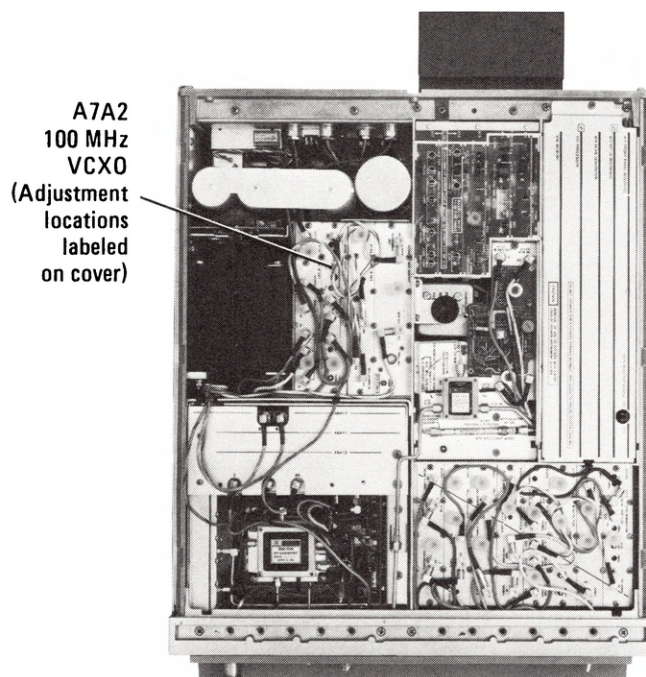

Figure 5-48. Location of 100 MHz VCXO Adjustments
3. Jumper – 10 Vdc from A18TP4 to A7A2TP1 TUNE test point. Refer to Figure 5-48 for location of A7A2 and adjustments.